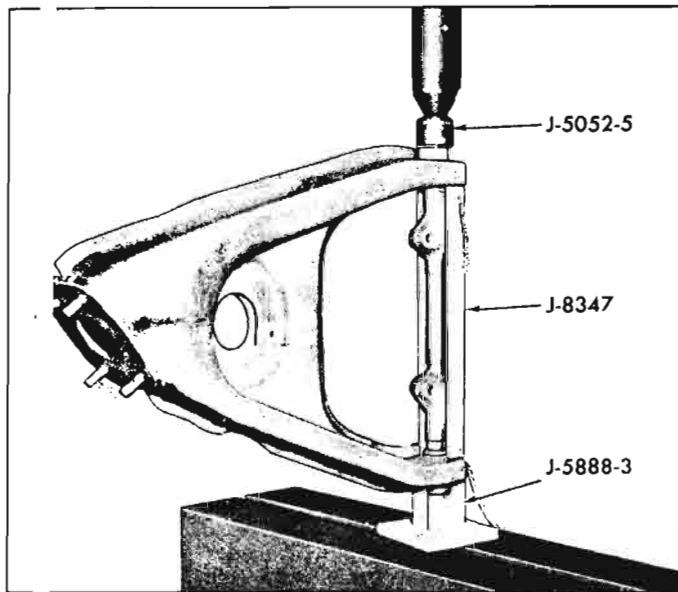

Fig. 3-30—Removing Control Arm Bushings
14. Support control arm in a press on Tool J-5888-3 as shown in Figure 3-30.